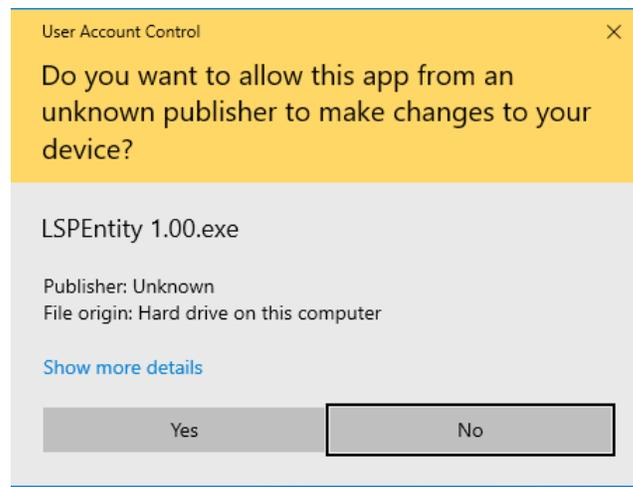

Figure 1
3. Open "LSPEntity x.xx.exe" (where "x.xx" is the version number) and click "Yes" or "Run" if the warning regarding "unknown publisher" appears (Figure 1).